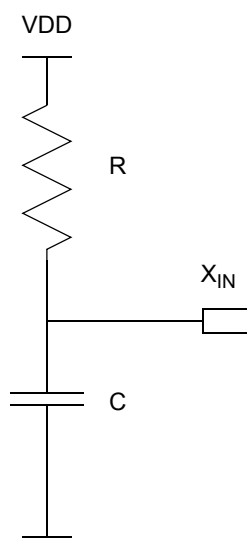

Figure 28. Connecting the On-Chip Oscillator to an External RC Network
Figure 28 displays a recommended configuration for connection with an external resistor-capacitor (RC) network.